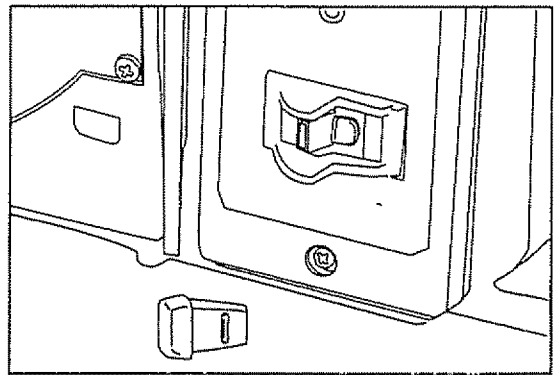

Fig. 13
■ ON / OFF switch (see figure 13)